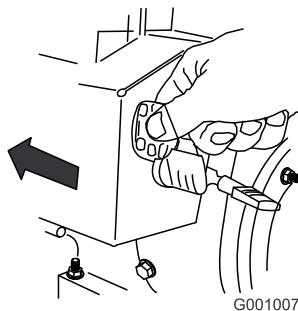

Figure 24
5. Insert the ignition key (Figure 24).